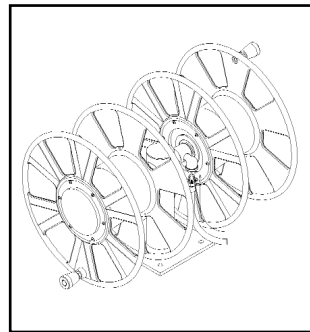

Figure 4
- 1) Apply thread compound to all threads. Fig 4.